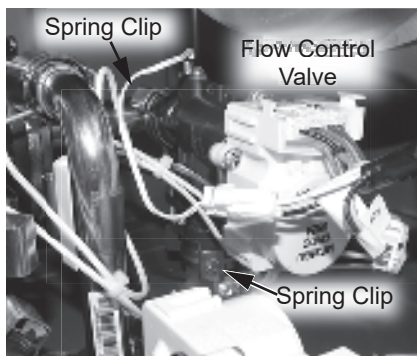

Figure 218 - Locating Flow Control Valve
17 Remove the two (2) spring clips (size 25) securing the flow control valve to the piping system. Place the spring clips aside in a safe place for reinstallation. See Figure 218.